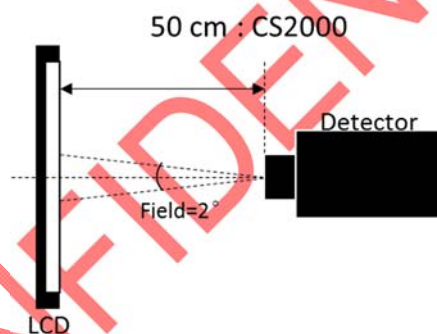
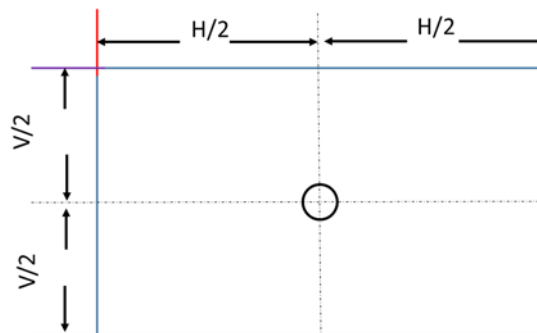

Fig. 4.1 Measurement Equipment And Measurement Position
Fig.4.2 The Definition of Measurement Point
- (1) The above optical items is measured at the center of the panel, and the measurement point is shown in Fig.4.2.
(2) Each chromaticity coordinates (x, y) are measured in CIE1931 color space when full-screen displaying (Red, Green, Blue, White) and light source is defined by C-light, Measurements shall be made at the center of the panel, and setup of measurement is shown in Fig.4.1 & Fig.4.2.
(3) Definition of Transmittance (T%):
(4) The color gamut is defined as the fraction in percent of the area of the triangle bounded by R, G, B coordinates and the area is defined by NTSC 1931 color standard in the CIE color space. Chromaticity coordinates are measured by CS2000 and the standard setup of measurement is shown in Fig.4.1 & Fig.4.2.
(5) Definition of Contrast Ratio (CR):
(7) Definition of Viewing angle:
As Note (4) the static contrast ratio definition, the viewing angles are defined at the angle that the contrast ratio is larger than 10 at four directions relative to the perpendicular direction of the HKC's module (two vertical angles: up θ_{y+} and down θ_{y-} ; and two horizontal angles: right θ_{x+} and left θ_{x-}). The standard setup of measurement is shown in Fig 4.1 & 4.4